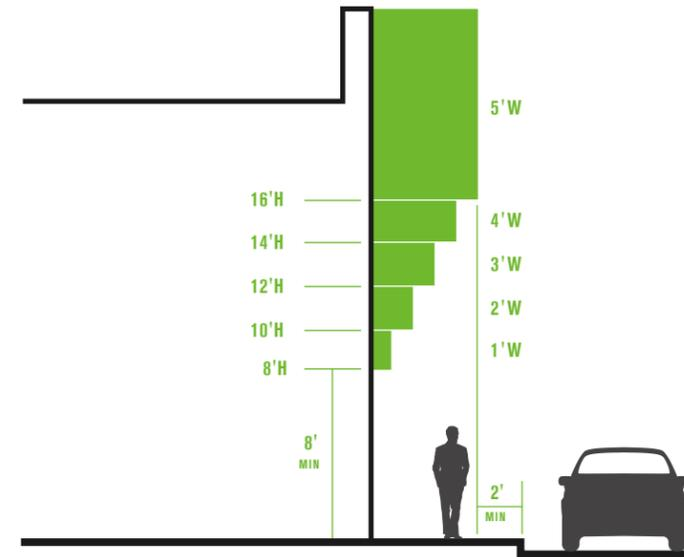

Figure 3.1
1. Projecting Signs are allowed to project over the lot line into a private development easement, public easement as allowable, but shall be a minimum of two (2) feet from the face of the curb.
2. The distance which a Projecting Sign is allowed over a private development easement, public easement as applicable, shall be determined based on the mounting height of the sign. Refer to Figure 3.1.